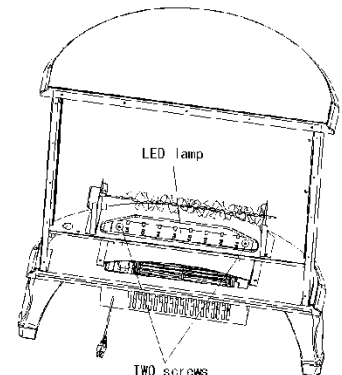

Fig. 2
- Remove LED lamps and replace with 17V-01 (see Fig.2)